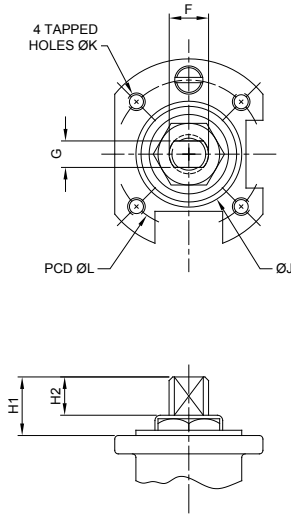

Fig. 6
- 6.5 The mount pad for each valve conforms to ISO 5211 and the stem dimensions are as shown in fig. 6 and table 1 below. Standard ISO brackets and couplers are available from AVCO to suit a wide range of actuator styles.